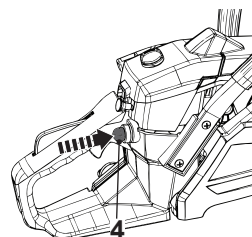

Fig. 20
Press the primer (4) 6 times when starting the product with a cold engine (Fig. 20). Do not press the primer for warm starts.